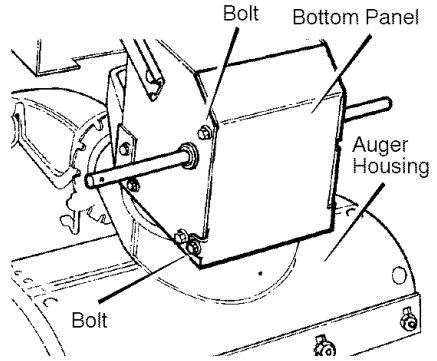

Figure 29
2. Stand the snow thrower up on the front end of the **auger housing** (see Figure 29).
4. Loosen the **bolts** on each side of the **bottom panel** (see Figure 29).
5. Install the **bottom panel** (see Figure 29).
2. Stand the snow thrower up on the front end of the **auger housing (4)**. (see Figure 29).